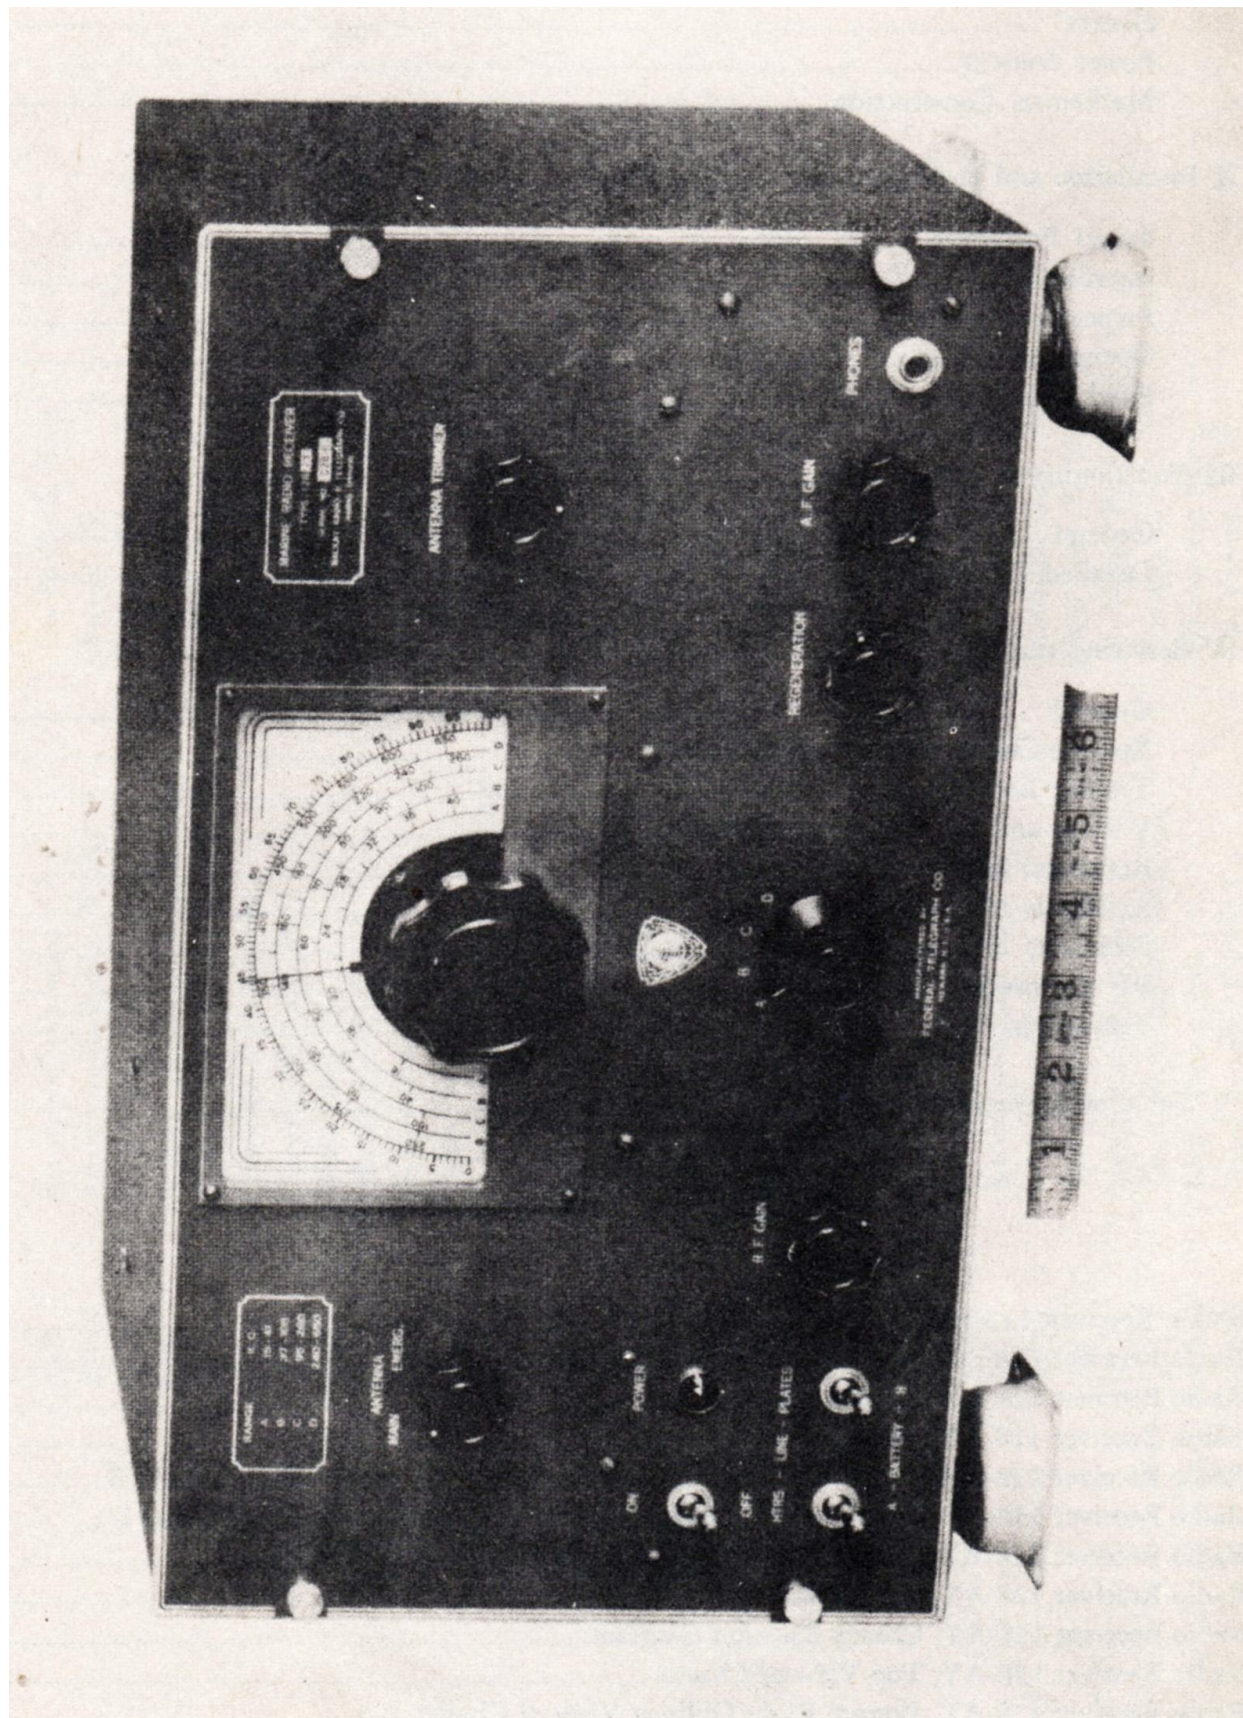

Figure 1—Radio Receiver 128-A.
1. General.—*a.* The 128-AY Receiver (figure 1) is a radio-telegraph receiver designed for use on ships and also at fixed stations.